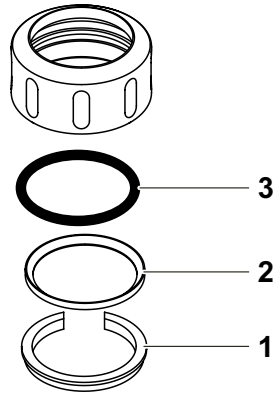

Fig. 6-2 Dismantling the coupling ring
| 1 | Remove the retaining ring (pos. 1 in Fig. 6-2).                  |